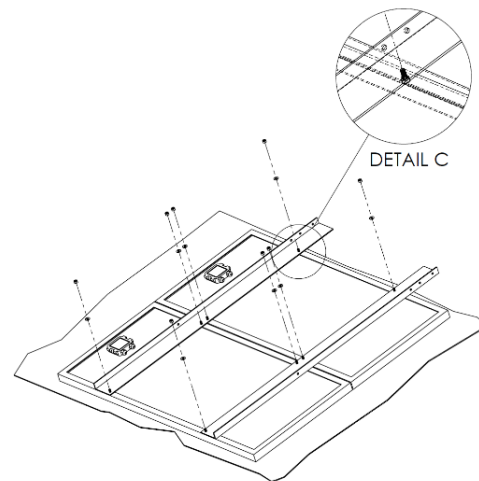

FIGURE 16
14. Place the 2 solar panel mounting angles on the solar panels as shown, aligning the slots in the rear of the solar panels with the holes in the solar panel mounts. Note the orientation of the solar panel mounting angles and the solar panels **(FIGURE 16)**.
Insert a 1/4-20 x 5/8" fastener from under the lip on the back of the solar panel (DETAIL C), through the mounting slot in the lip, and then through the corresponding hole in the solar panel mounting angle. Place a 1/4" washer and a 1/4-20 self-locking nut on the fastener and tighten until just tight, then back off slightly to allow for adjustment in following steps. Do this for all 8 mounting slots on the rear of the solar panels. **(FIGURE 16)**